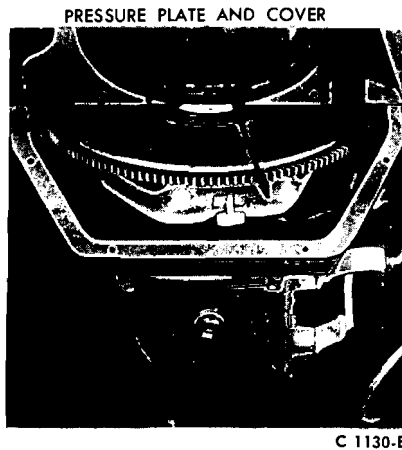

FIG. 5—Clutch Housing — 390 CID Engine
13. Remove the cover and pressure plate and the clutch disc through the opening at the bottom of the flywheel housing (Fig. 5).